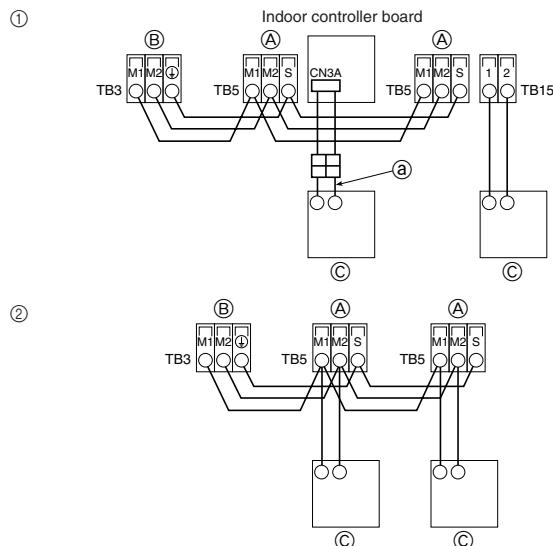

Fig. 7-2
7.2. Connecting remote controller, indoor and outdoor transmission cables (Fig. 7-2)